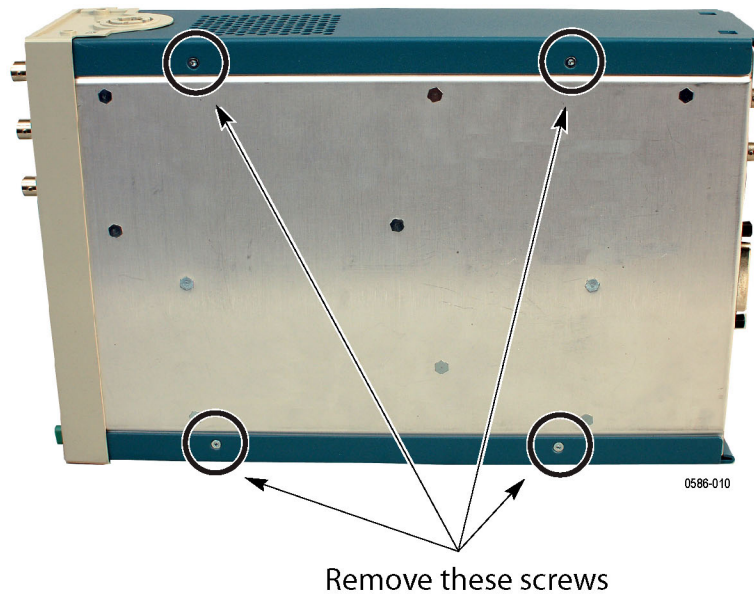

Figure 7: Location of the case retaining screws
2. Hook one side of the handle into the hole on the side of the instrument. (See Figure 7.)